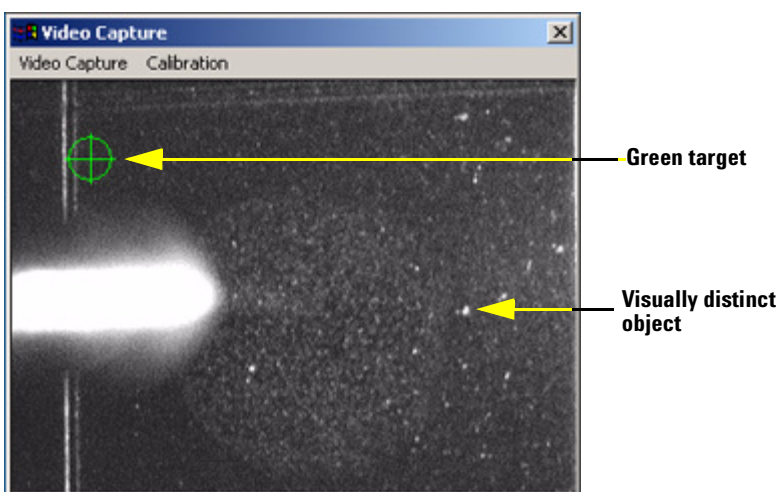

Figure 150 Video Capture screen showing green target and the visually distinct object that was selected
- 3 Locate the visually distinct object in the right-hand quadrant, then drag and drop the green target icon over the object. Click **Next**. See Figures 150 and 151.